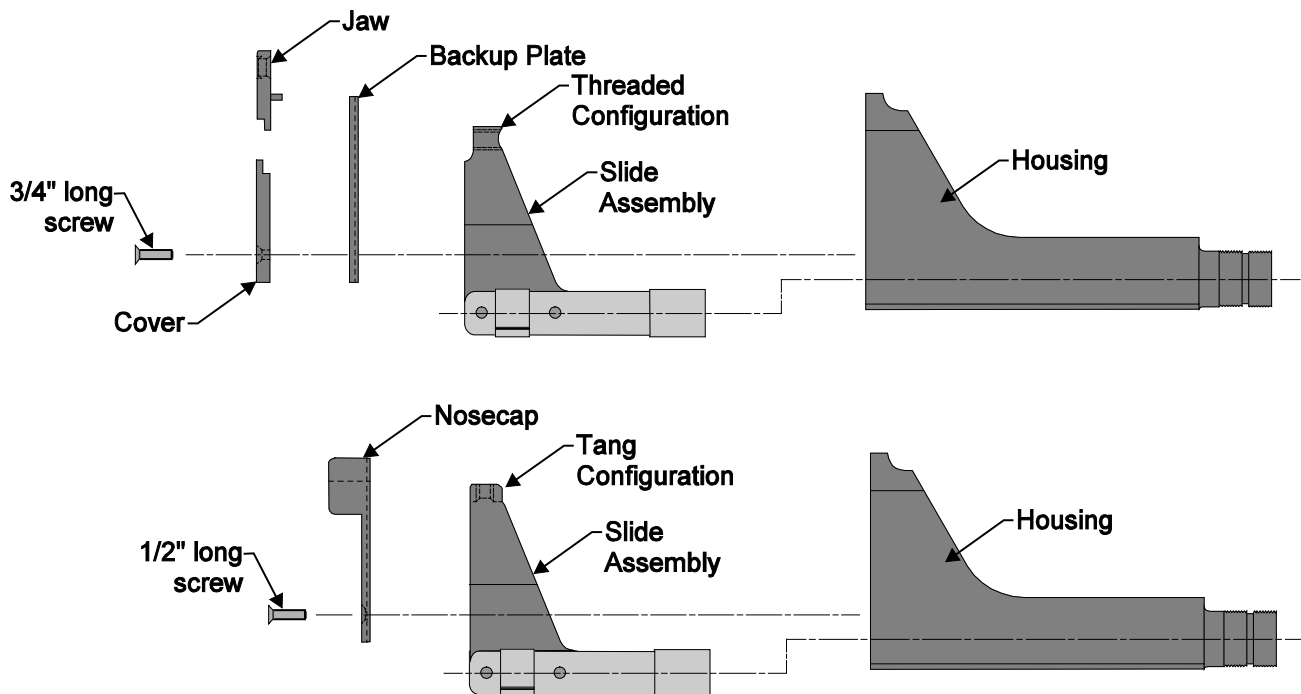

Figure 4-4
- Remove the backup plate from the LBOA and insert the slide assembly into the housing (Figure 4-4).
- Install the proper backup plate, special jaw plate, or special noscap spacer (Figure 4-4).
- If a standard backup plate is used, install the proper jaw on the LBOA (Figure 4-4).